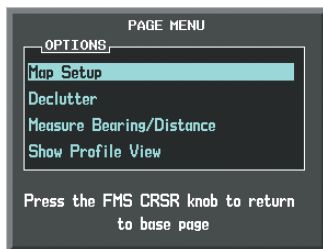

Figure 6-6 Navigation Map Page Menu
- 3) With 'Map Setup' highlighted, press the **ENT** Key (Figure 6-6).